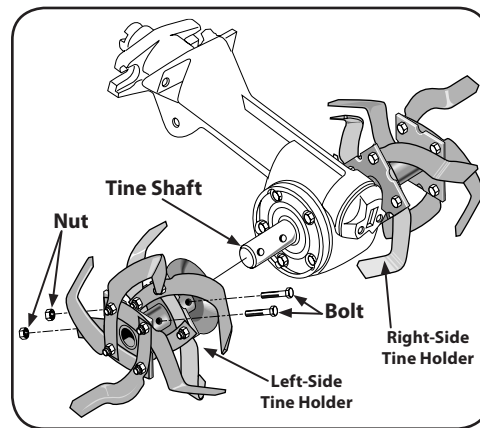

Figure 5-33
5. Use two $\frac{1}{2}$ " wrenches to remove the two bolts and nuts securing the tine to the tine holder plate. See Figure 5-33. Use penetrating oil on the hardware if it is rusted or hard to remove.
3. Remove the two bolts and nuts securing each holder. See Figure 5-33.